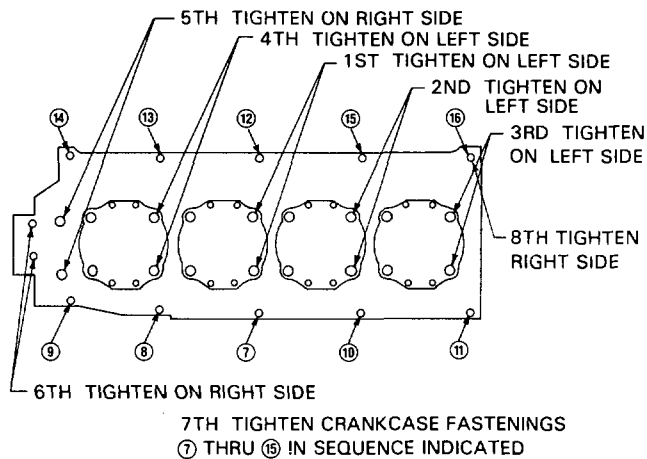

Figure 11. Left Side of Crankcase
k. Eight Cylinder Engines, Standard Cylinder Flange (See Figure 11).